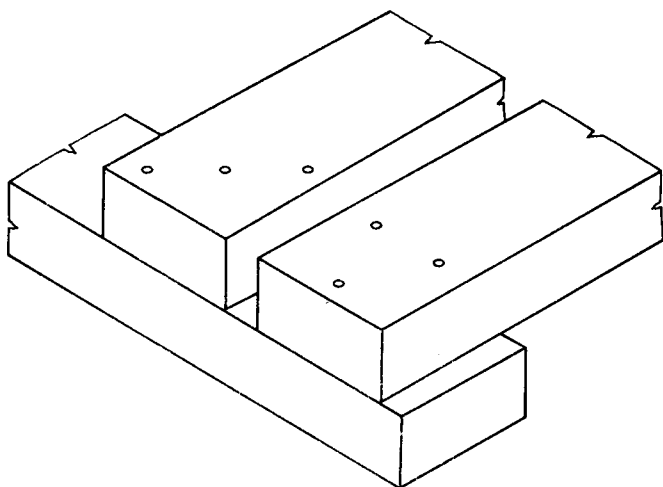
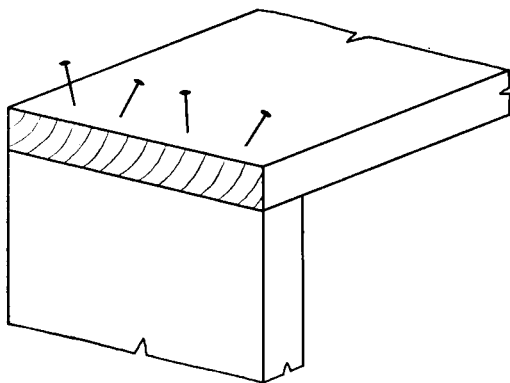

FIG. 11.3. Nails staggered.
FIG. 11.4. Dovetail nailing.
11.2). When nailing near to the end of wood, it is best to make holes with a bradawl which is used at right angles to the grain. When using oval brads, put in the nails with the oval in the direction of the grain. Blunting the point of the nail will often prevent splitting. When several nails are in close proximity, staggering their position as in Fig. 11.3 will avoid splitting the wood. Nailing, too, is more effective if carried out in a dovetail fashion (Fig. 11.4).